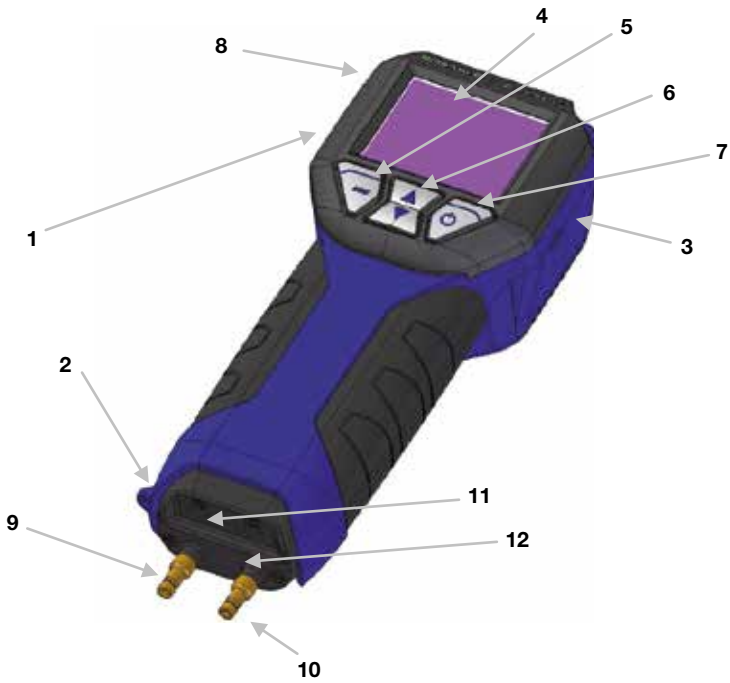

Fig. 1: Overview
11, 12 14	<p>Standard jacks for temperature probes NiCr-Ni</p> <p>14 Battery cover (in Fig. 1 on the rear side)</p> <p>There are diffusion openings for the internal registration of the humidity and temperature on the rear side of the Lindab PC 410. The internal temperature measurement is necessary for the temperature compensation of the pressure sensor.</p>
- Insert the plug of the S-tube probe into jack 11 (Fig. 1) of the PC 410.
- Connect the overpressure hose (turned against the flow) of the S-tube probe to the overpressure socket (+) (Fig. 1, part 9) and the underpressure hose to the underpressure socket (-) (fig. 1, part 10).
- Insert the plug of the temperature measuring pliers into the jacks 11 and 12 (Fig. 1) of the PC 410.
- Before you plug the recharger into the outlet, connect it with the charging connection of the PC 410 (Fig. 1, part 3).